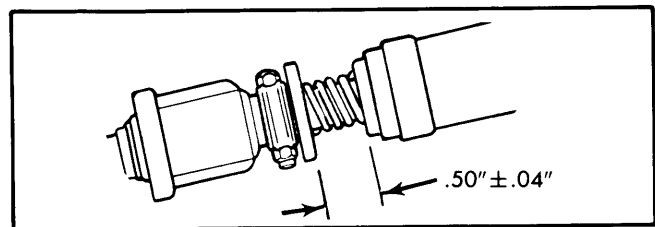

Fig. 18 Coupling-to-Steering Shaft Flange Adjustment for "C" and "K" Models
11) Install lock cylinder, and shaft lock cover. Install ignition switch, neutral start switch, and back-up light switch. Install lower wire protector over wires and on jacket. Install mounting bracket using ONLY correct length bolts. Install steering wheel. Check dimension as shown in Fig. 18, 19 and 20. To adjust, apply force on steering wheel end of steering shaft while loosening shaft clamp on pot joint bolt. Tighten when specified dimension is obtained.